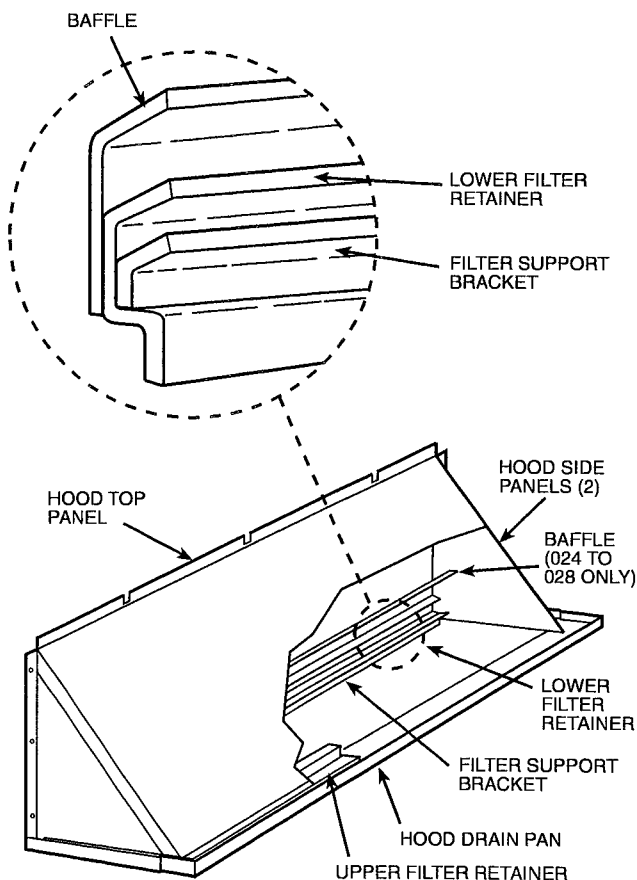

Fig. 22 — Outdoor-Air Hood Details
2. Assemble hood top panel, side panels, upper filter retainer, and drain pan (see Fig. 22).
3. Secure lower filter retainer and support bracket to unit. See Fig. 22. Leave screws loose on 024-028 units.